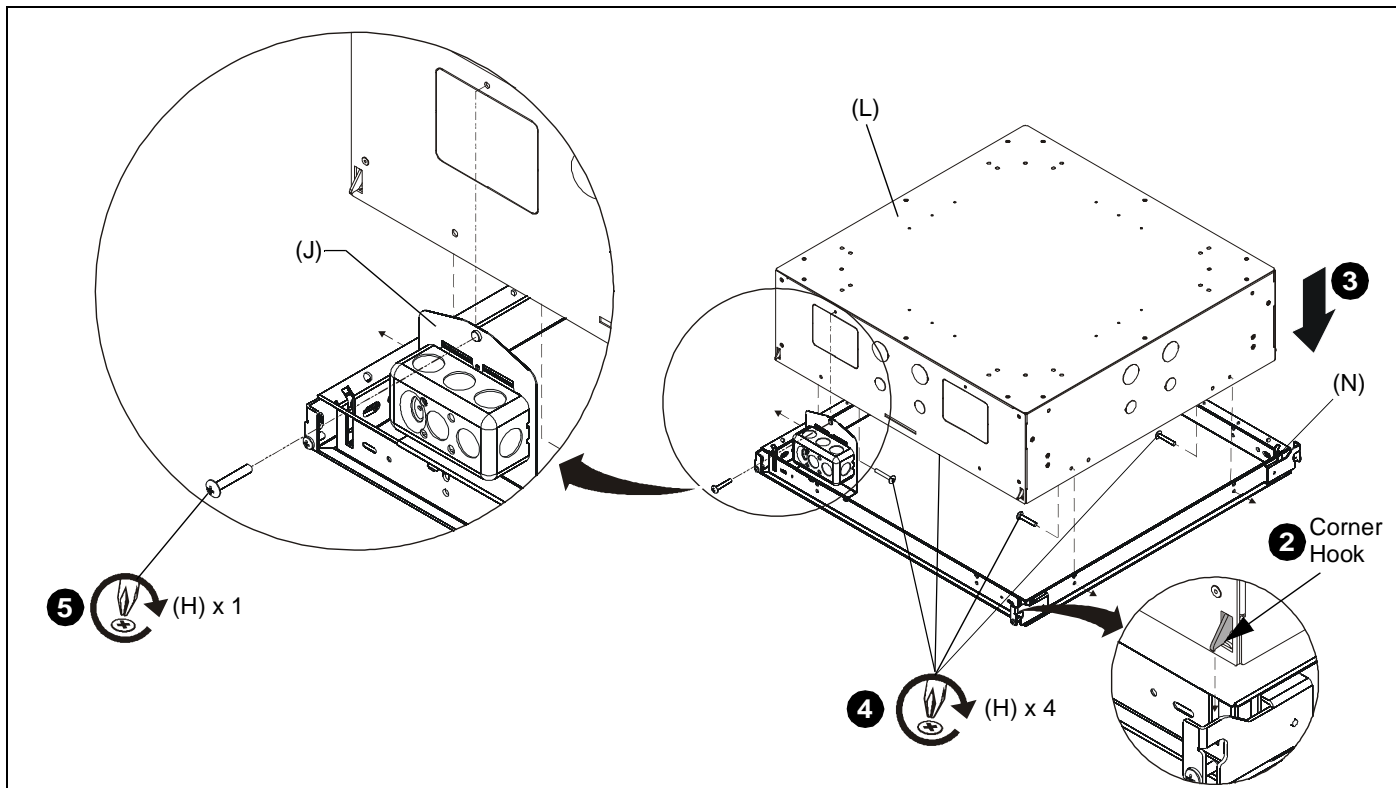

Figure 11
3. Lower onto CMS490 frame, carefully lining up outlet box attached to CMS490 frame with opening in CMS490. (See Figure 11)
4. Secure the CMS490 (L) to the CMS490 frame (N) using four 8-32 x 1" Phillips head screws (H), two on each side of the CMS490. (See Figure 11)
5. Secure the outlet box attachment plate (J) to the CMS490 using one 8-32 x 1" Phillips head screw (H). (See Figure 11)
NOTE: Ensure that there are four audible clicks--each corner hook "clicking" into place onto the frame. (See Figure 11)